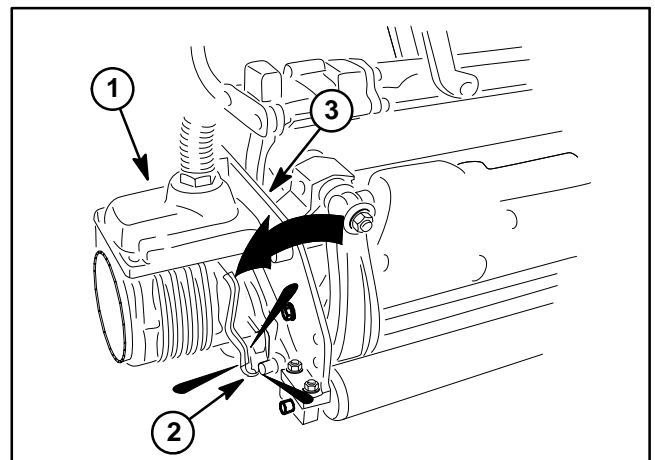

Figure 116
- C. Pull motor clamp toward the motor until clamp fully engages slots on both sides of the motor mount (Fig. 116). There should be an audible click as clamp engages mount.
4. Secure motor cable to brackets on machine with two (2) bulkhead nuts.
5. Plug two (2) motor cable electrical connectors into machine wire harness.